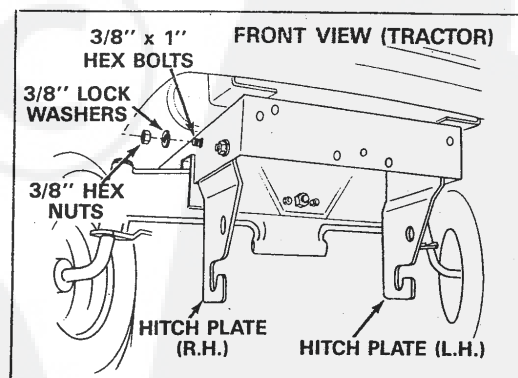

FIGURE 5
1. Assemble right hand and left hand hitch plates inside tractor frame (near front) using two 3/8" x 1" hex bolts from inside of each plate. See figure 5. Secure with two 3/8" lock washers and two 3/8" hex nuts outside frame on each side. Note: Offset on each plate must be toward inside, as shown in figure 5.